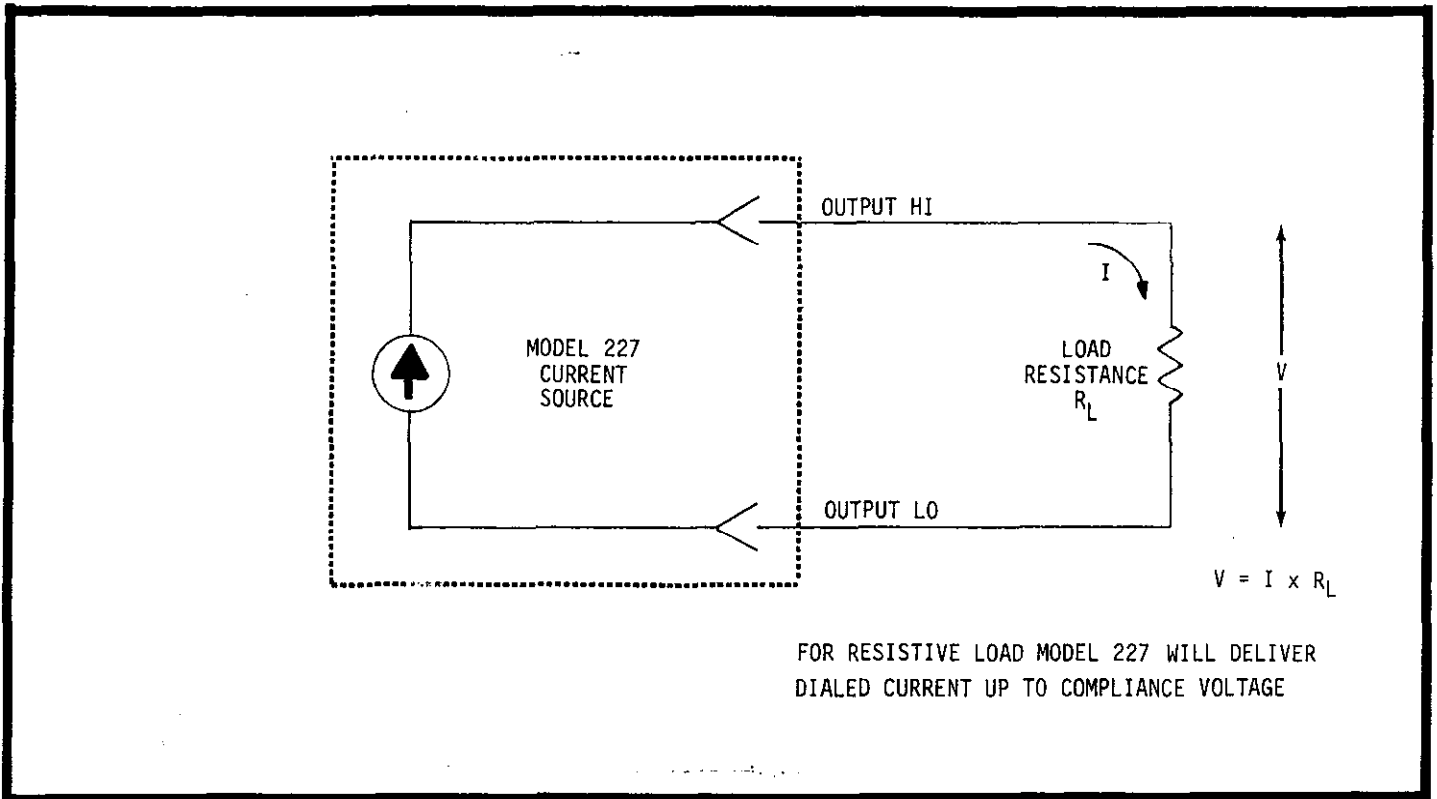

FIGURE 10. Connections as a Current Source with Resistive Load.
1. Operation as a Current Source. The Model 227 can deliver a constant current up to the compliance voltage setting. Current is set by use of the Range and Decade Dials on the front panel. With a resistive load as shown in Figure 10, the voltage developed across the load resistance R_L is: $V = I \times R_L$. If the compliance voltage setting V_C is less than the voltage V , then the Model 227 will automatically limit the voltage to V_C and the LIMIT indicator will be lighted.